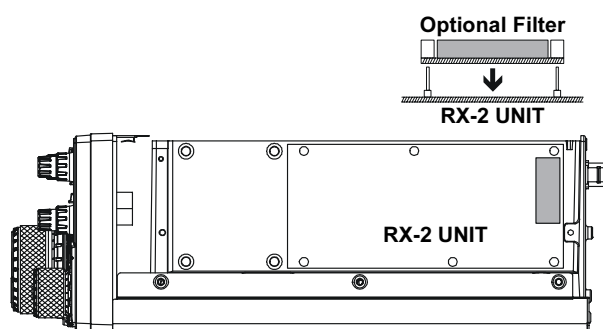

FIGURE 2
5. Refer to Figure 2 for the mounting location for the optional filter. Position the filter so that its connectors are aligned with the mounting pins on the board, and push it into place.